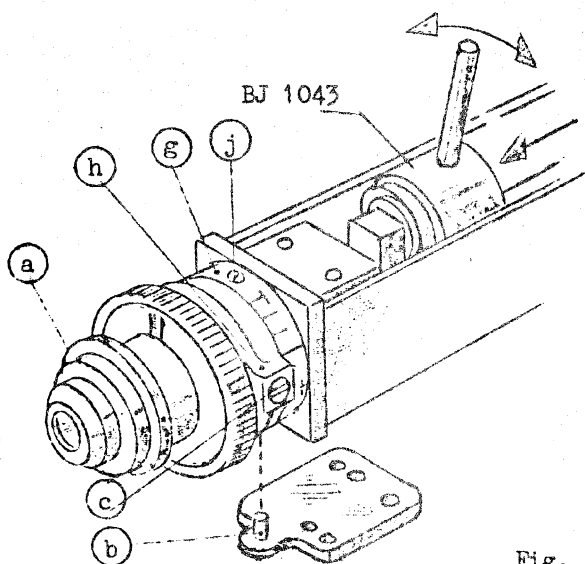

Fig. 1
1. Reflex viewfinder (fig. 1)
1.2 Adjusting the eyepiece (fig. 1)